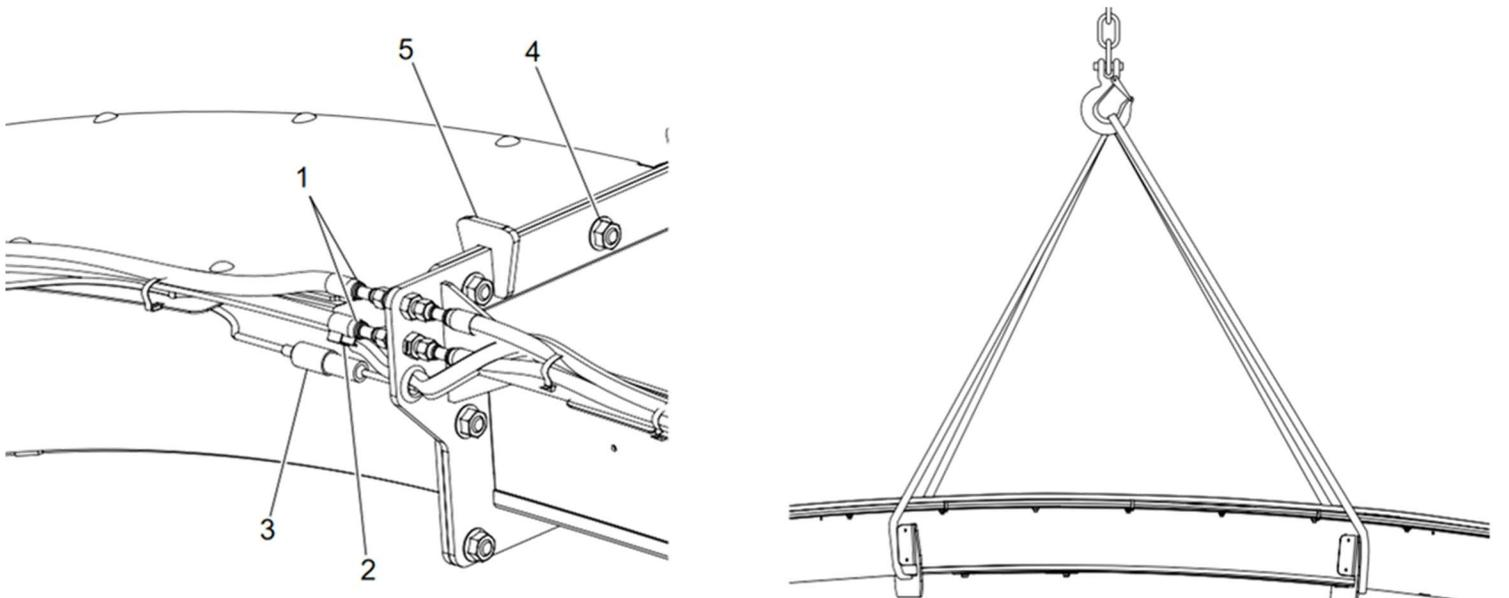

Figure 53 : Stinger spout conversion
1. Fasten the lifting straps on each side of the reinforcement brackets of the intermediate section to lift and remove the middle section Figure 53 : Stinger spout conversion.